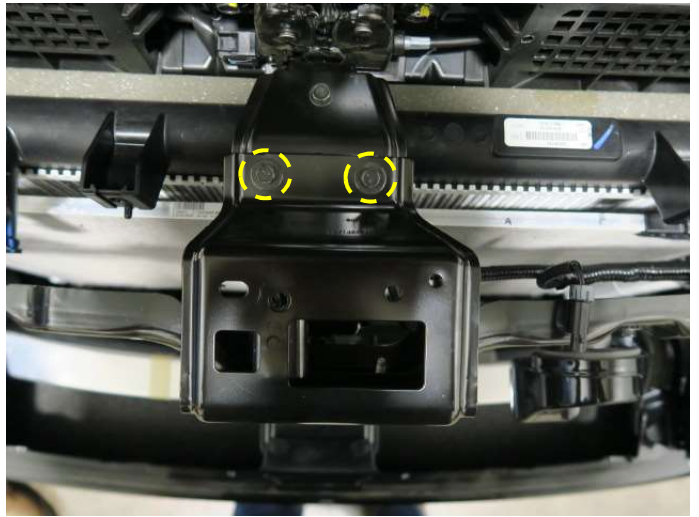

Figure 10
13. Remove the (2) upper center securing bolts. (Figure 10)